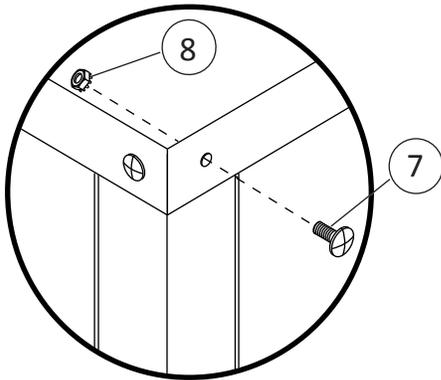

Fig 1: Carriage Bolt & Kep Nut Assembly
- 2) Attach the legs to the top shelf using the 0.6 cm x 1.5 cm carriage bolts (Ref. 7) and kep nuts (Ref. 8). (Fig. 1)